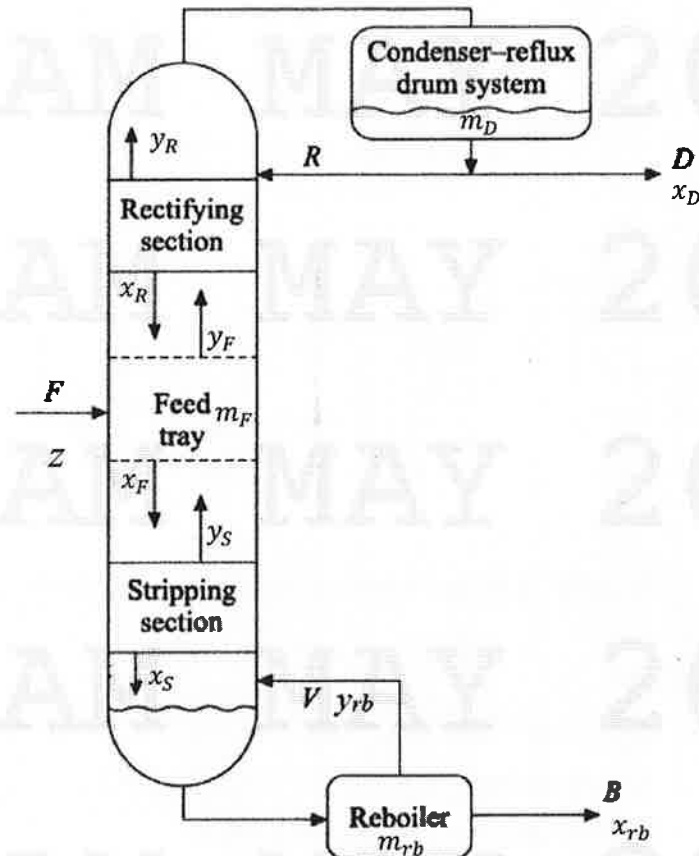

FIGURE Q1b: Distillation column to separate components A and B
- b. A n -stages distillation column with a total condenser and a partial reboiler is separating a mixture containing components A and B as shown in FIGURE Q1b.